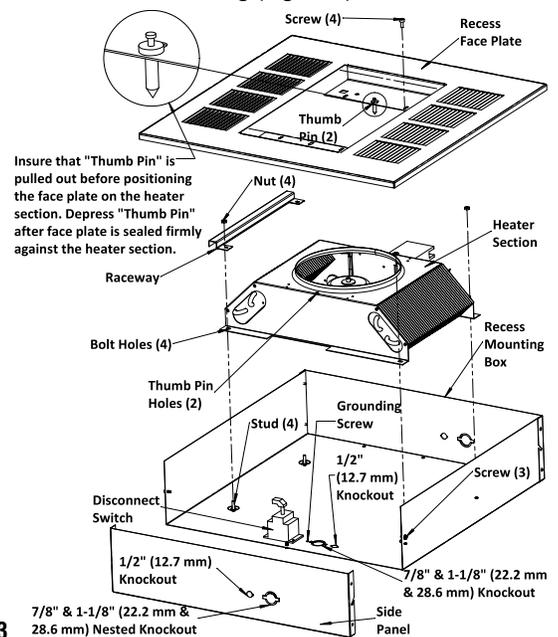

Figure 3
1. Remove the recess mounting box (Figure 3) from the carton containing the Recess Mounting Enclosure, Type FIE-REB-N or FIE-REBNW-W.
2. Remove three screws and the side of the recess mounting box to allow for easier wiring (Figure 3).
3. Remove one of the knockouts close to the ground screw and install a cable or conduit connector (Figure 3).
4. Install the optional disconnect switch (if required as shown in Figure 3).
8. Position the heater section over the studs in the recess mounting box (Figure 3).
- Push the heater section onto the studs and securely tighten two nuts (supplied) on the studs to secure the half of the heater section opposite the sleeved wires to the recess mounting box. Push the raceway onto the studs ensuring that the sleeved wires are in the raceway and securely tighten two nuts (supplied) on the studs to secure the raceway and the other half of the heater to the recess mounting box (Figure 3).
- Remove the Recess Face Plate (Figure 3) from the carton containing the Recess Mounting Enclosure, Type FIE-REB-N or FIE-REBNW-W.
NOTE: Insure that the “thumb pin” in each end of the discharge grille opening is pulled outward to allow the body of the thumb pins to fit into the holes in the heater section. (Figure 3.)
- Install and securely tighten four screws (supplied) to secure the recess face plate to the heater section (Figure 3).